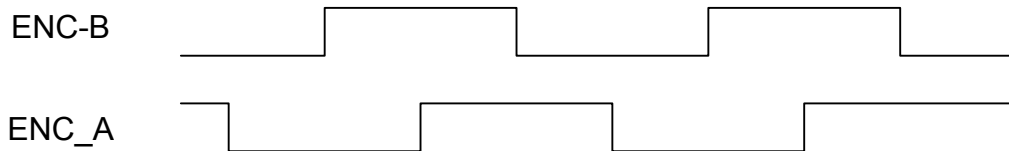

Figure 19. Sample Encoder A and B Signal Timing
- Verify that the B signal leads the A signal (see Figure 19)